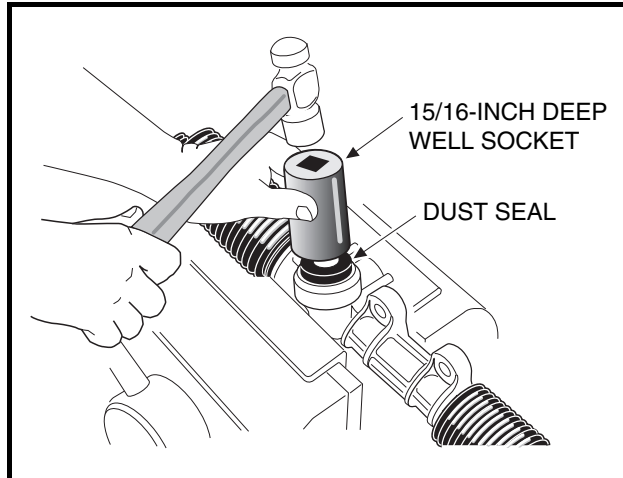

Figure 7-12 Press In Dust Seal
8. Using a socket to apply pressure evenly, press in a new dust seal (Figure 7-12, Page 7-12).